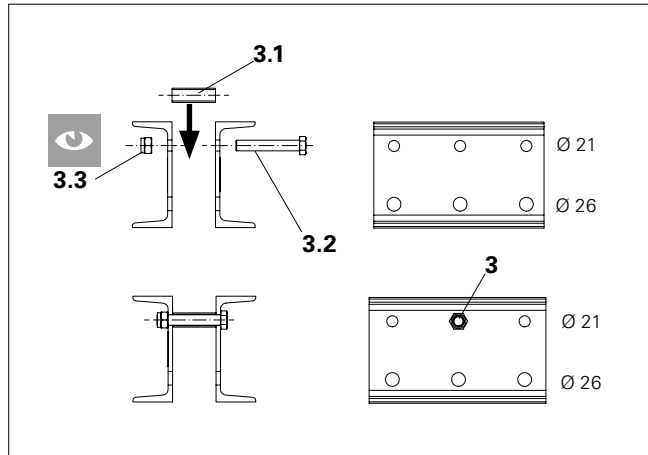

Fig. C4.02
3. Attach self-locking nut M20-8 (**3.3**) (SW 30) to the bolt and tighten. Tightening torque min. 100 Nm. (Fig. C4.02)
(Fig. C4.02)